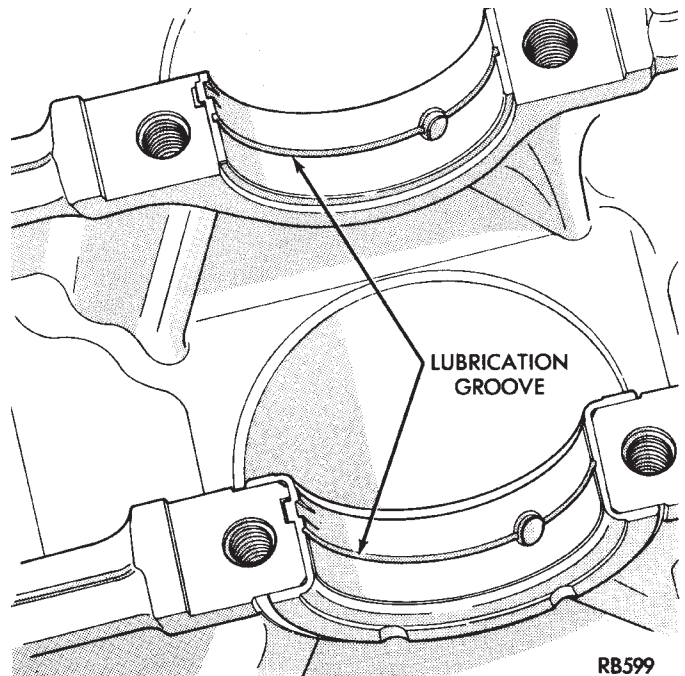

Fig. 12 Installing Main Bearing Upper Shell
(2) Install the main bearing shells with the lubrication groove in the cylinder block (Fig. 12). **The 1, 2, 4 and 5 main bearings are full groove to pro-**